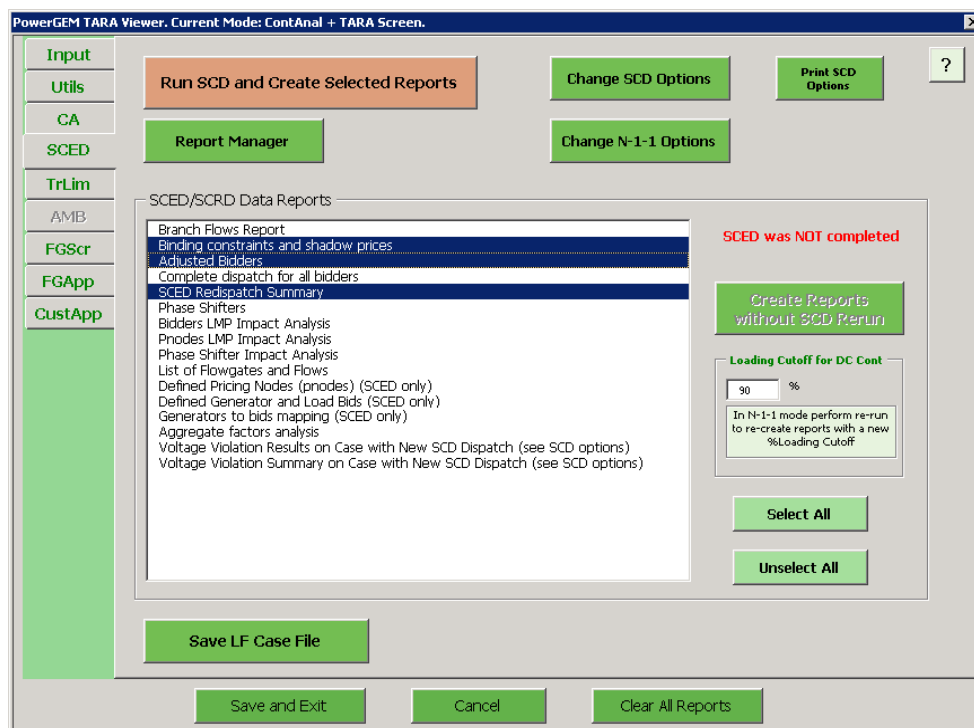

Fig. 2
2. While holding the “Control” key on your keyboard, SELECT “Binding constraints and shadow prices”, “adjusted bidders”, and “SCED Redispatch Summary”. (Example, Fig. 2, below).